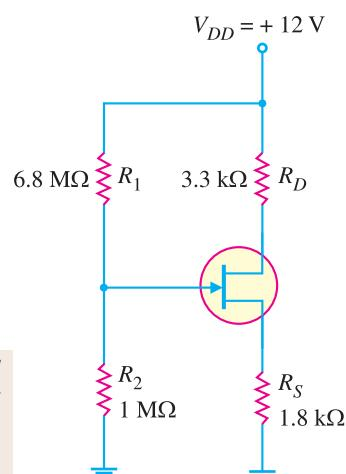

Fig. 19.27
**Example 19.20.** Determine  $I_D$  and  $V_{GS}$  for the JFET with voltage-divider bias in Fig. 19.27, given that  $V_D = 7\text{V}$ .